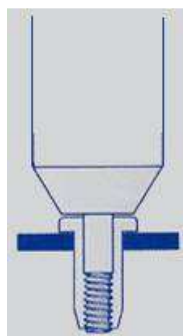

Fig. 2
6. Smoothly screw in until the riveting tool reaches the end. (Fig. 2).